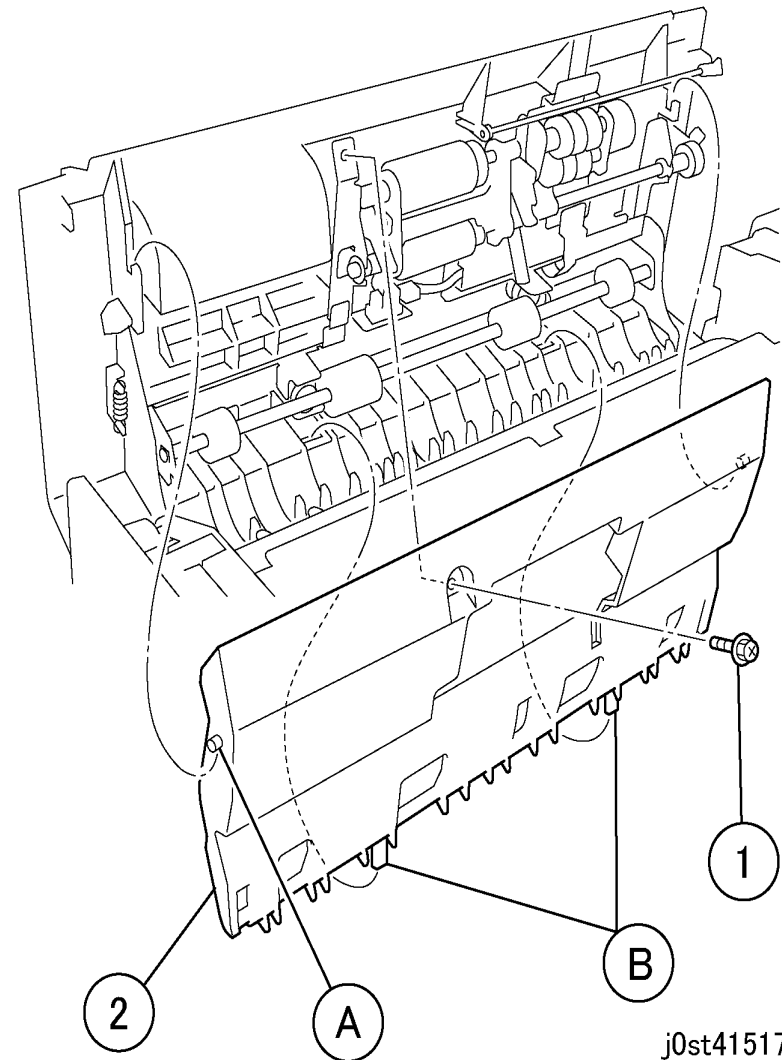

Figure 1 Removing the Feed Upper Chute
3. Remove the Feed Upper Chute (Figure 1).